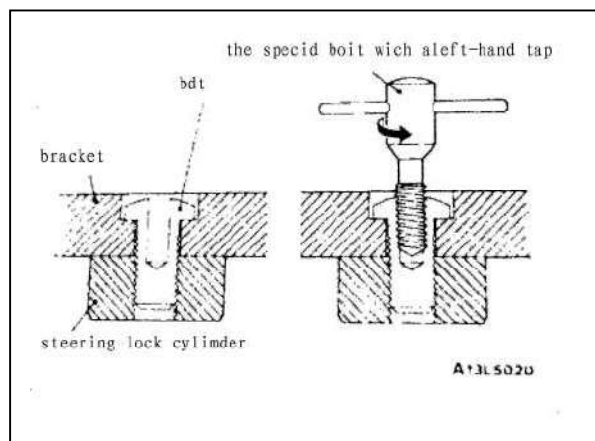

Fig 17-16
(1) SPECIAL BOLT REMOVAL(See fig 17-16)